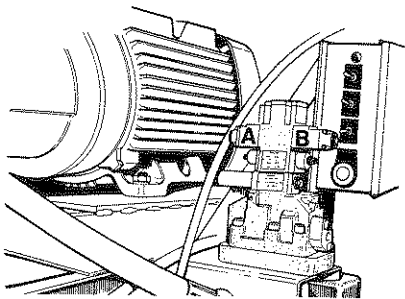

Fig. 34 Plunger direction control valve
3. RETRACT CYLINDER ≈6 IN Press the solenoid A button on the plunger direction control valve (fig. 34) until the plunger retracts by about 6 inches.